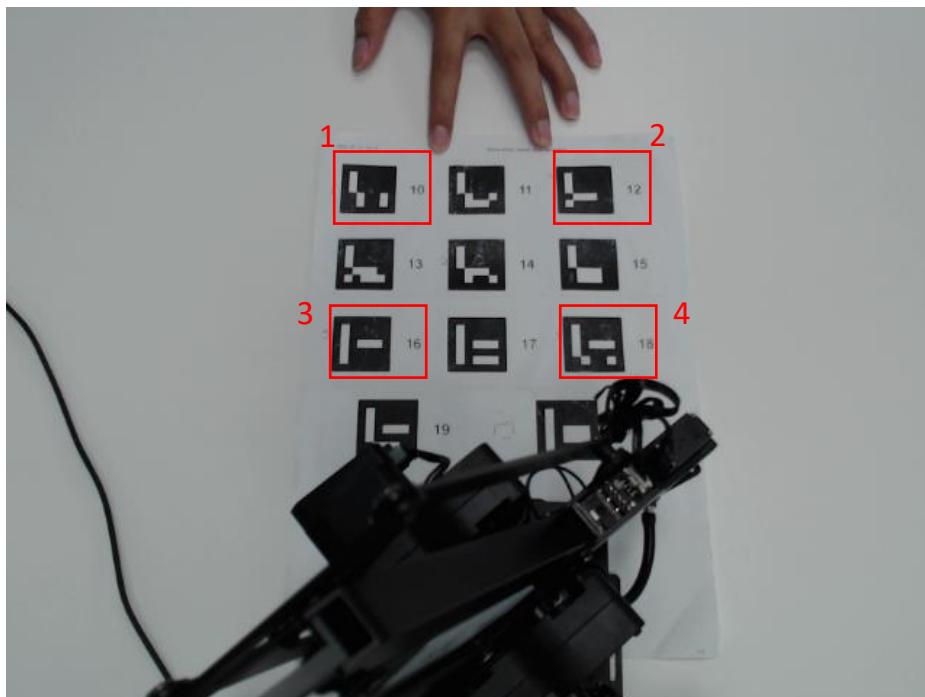

Figure 16. Position of the Marker
6. For this step, we will use the ArUco board again and places the ArUco board in front of the robot. We will select four of the markers for this calibration. The marker we select is the marker where the place is in the corner of the board. See Figure 16 for the detail.
8. Fill out the Marker ID form with the marker ID you choose for calibrating the camera (See Figure 16). Make sure you fill it right because if you fill it with the wrong Marker ID, the robot will fail to recognize the marker and coordinate.
This step is mandatory for you to do because, in this step, we will test our calibration. In this step, we will give the command to the robot to move to the specific ArUco marker. After the command is sent, the robot will move to the marker and touch it, so you must place the ArUco board in front of the robot again (Figure 16). **Ensure the robot's position and the ArUco board are in the same position as we calibrate the robot.**